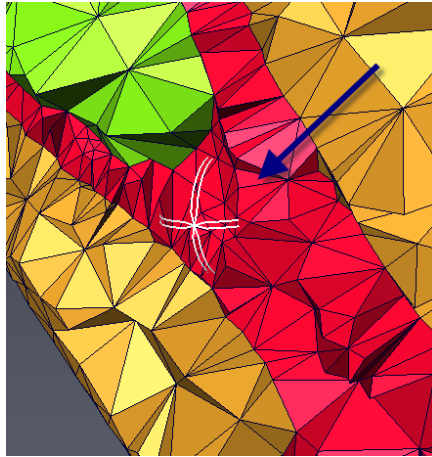

Figure 22.9: Clipping Plane Rotation Manipulator
- Click **Rotate** in order to show a dedicated manipulator located at the center of the plane (Figure 22.9). Select the manipulator with the left mouse button and rotate by moving the mouse